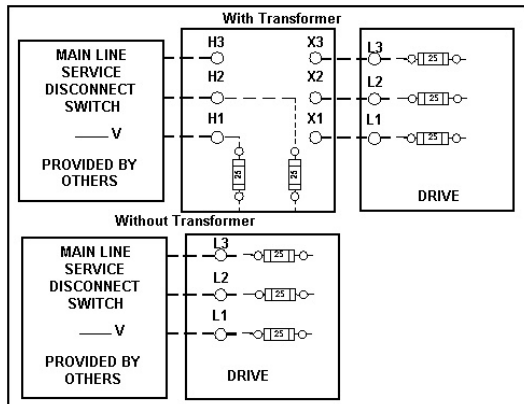

Figure 3-4
- C. The third circuit required common to all drive types is 3 phase Main Line power. This 3 phase power will either connect directly into a fuse block in the drive side of the controller or to the primary side of an Isolation, Step Up or Step Down power transformer. If a power transformer is used the secondary side will be wired to the fuse block in the drive side of the controller. [See Figure 3-4.]